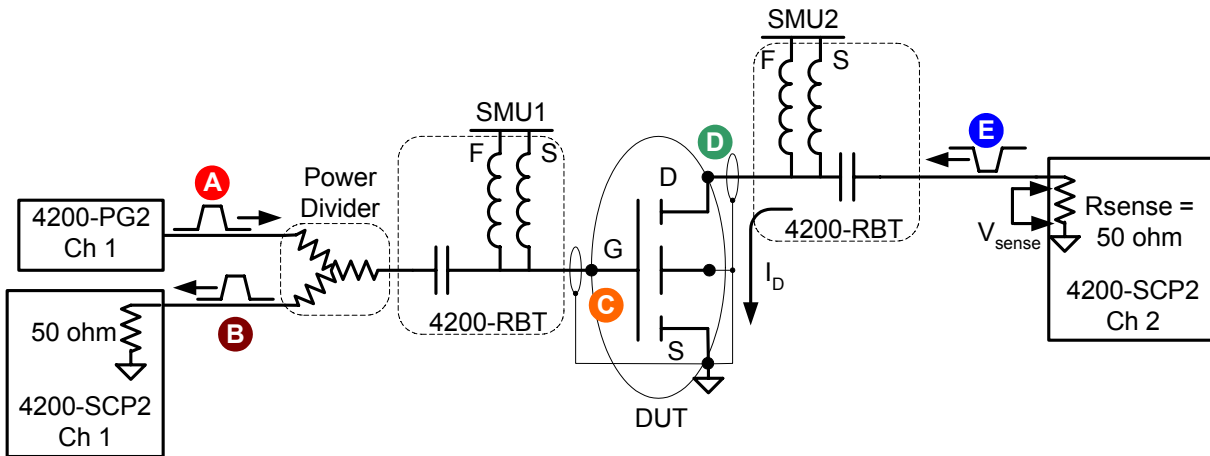
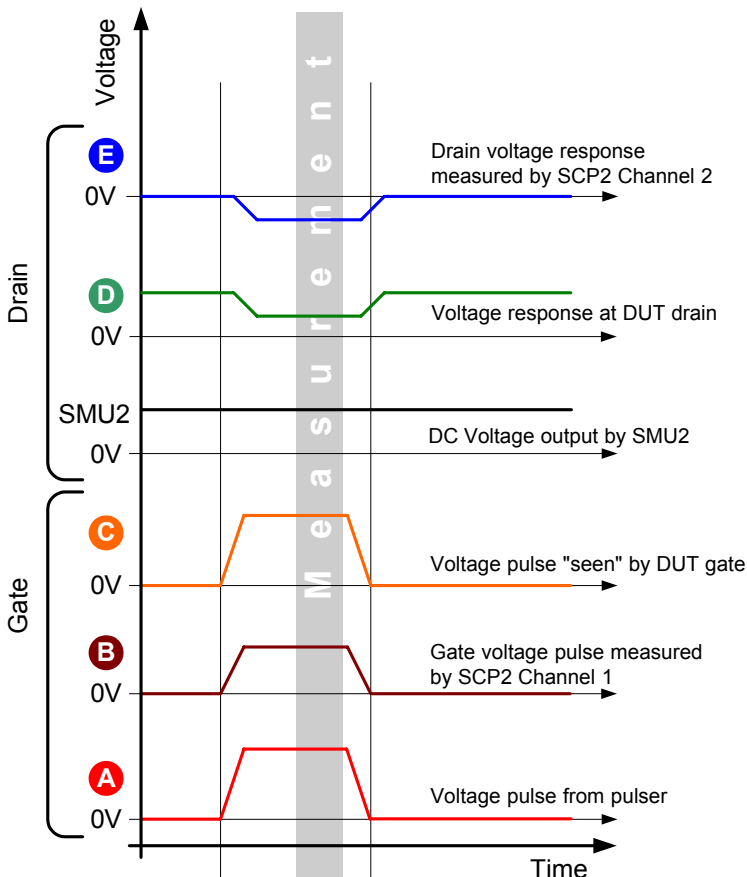
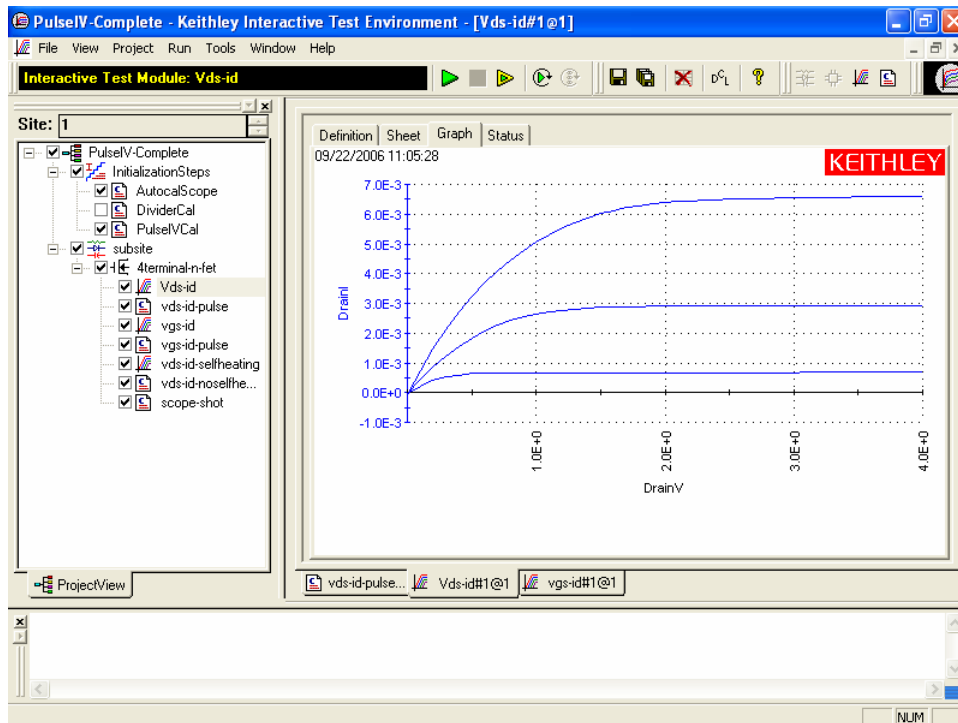
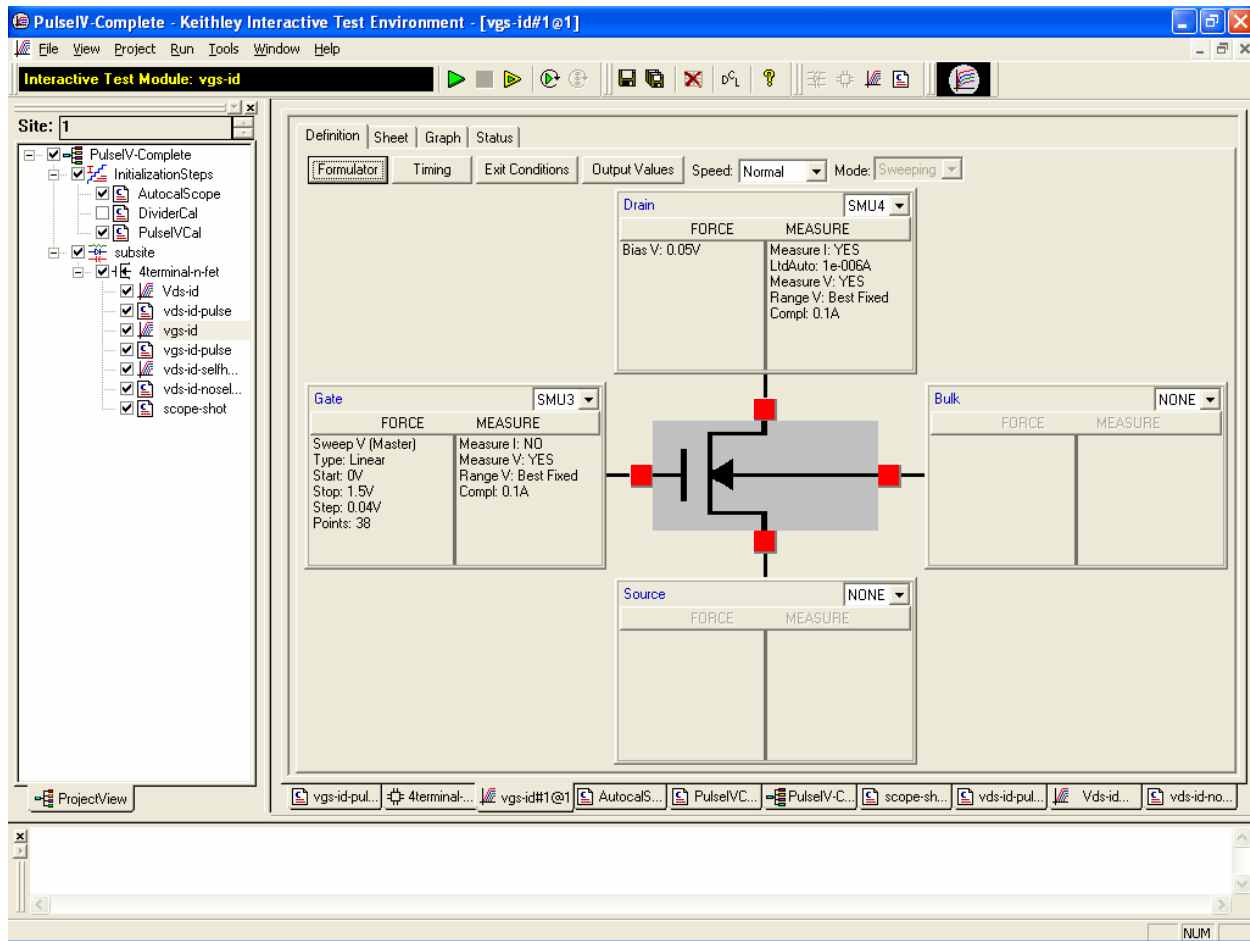

Figure 1a. 4200 Pulse IV interconnect schematic, showing 4200-PG2, 4200-SMUs, 4200-RBTs and DUT.
Figure 1b. Waveforms at select points in Figure 1a.
Figure 5. DC Vds-id ITM graph tab.
Figure 8. DC Vgs-id ITM definition tab.
In general, the 4200-PIV applies a pulse to the gate, while DC biasing the drain. The source and body connections are connected to ground/shield. The dual channel oscilloscope (4200-SCP2) measures the gate voltage and drain voltage. The drain current is calculated by the voltage drop across the 50 ohm termination of the scope (Figure 1a, Rsense on SCP2 Channel 2).
Figure 1a and 1b show a schematic diagram of the Pulse-IV setup with corresponding waveforms from select points in order to provide snapshots of the signals and to show the effects of various aspects of the setup. Although many waveforms are displayed below, there are only 2 waveforms that are actually measured by the 4200-SCP2 (B and E). The waveforms shown in Figure 1b are a snapshot of the signals shown in Figure 1a, all graphed on the same time scale. Showing all waveforms together permits comparison of the DC offset and relative amplitudes in various parts of the schematic.
**SMU1** (not shown in Figure 1b): This is the voltage output by SMU1 during Pulse IV testing. During pulse IV testing in the PulseIV-Complete project, SMU1 is fixed at 0V.
**E** Drain voltage response measured by oscilloscope (4200-SCP2 Channel 2): The response of the drain is due to the gate pulse turning on the transistor and allowing drain current to flow. This drain current,  $I_D$ , flows through the  $50\ \Omega$  input impedance of the scope, which acts as a current sense resistor ( $R_{sense}$ ), resulting in the voltage drop in the waveform ( $V_{sense}$  on Figure 1a). This voltage response is negative due to the direction of current flow through the  $50\ \Omega$  resistor and the fact that the scope is ground-referenced. Note that this waveform is AC shifted to 0V, due to the coupling capacitor in the 4200-RBT.
The DC Vds-id test, shown in Figure 5 and 6, is a typical family of curves. The drain voltage,  $V_d$ , is swept from 0 to 4V and after each  $V_d$  sweep the gate voltage,  $V_g$ , is stepped to the next value. The key difference between a traditional DC-only Vds-id and the DC IV through the 4200-RBT Bias Tees is the number of SMUs. For DC IV through the bias tees, 2 SMUs are used, with the Source and Body/Bulk connections connected to ground (SMA coax shield), as shown in the schematic in Figure 1a.
The DC Vgs-id test, shown in Figure 8 and 9. The key difference between a traditional DC-only Vgs-id and the DC IV through the 4200-RBT Bias Tees is the number of SMUs. For DC IV through the bias tees, 2 SMUs are used, with the Source and Body/Bulk connections connected to ground (SMA coax shield), as shown in the schematic in Figure 1a.
The gate signal is the positive pulse curve (blue), using the left Y axis. This curve is the pulse applied to the DUT gate as measured at the scope card after the pulse has been split by the power splitter. The drain signal is the negative pulse (red), using the right Y axis. This negative curve is the response of the DUT drain. The applied drain voltage is DC, but the pulse applied to the gate causes the pulsed response of the drain. The drain response is a negative voltage due to the direction of the current flow through the sense resistor, in relation to the scope card measurement. See waveform E in Figure 1a and 1b.